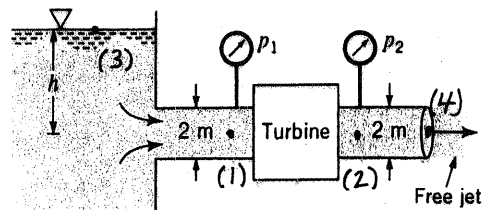

FIGURE P5.119
5.119 The turbine shown in Fig. P5.119 develops 2500 kW when the water flowrate is $20 \text{ m}^3/\text{s}$. The head loss across the turbine from (1) to (2) is negligible, but the head loss for the entire flow is 2.5 m. (a) Determine the pressure difference, $p_1 - p_2$, across the turbine. (b) Determine the elevation h .